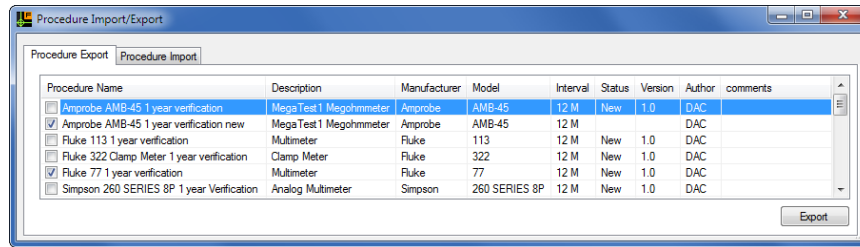

Figure 44. Procedure Export Screen
1. Click **Tools** on the main menu and then point to **Procedure Import/Export Tool**. The **Procedure Import/Export** screen in Figure 44 opens.